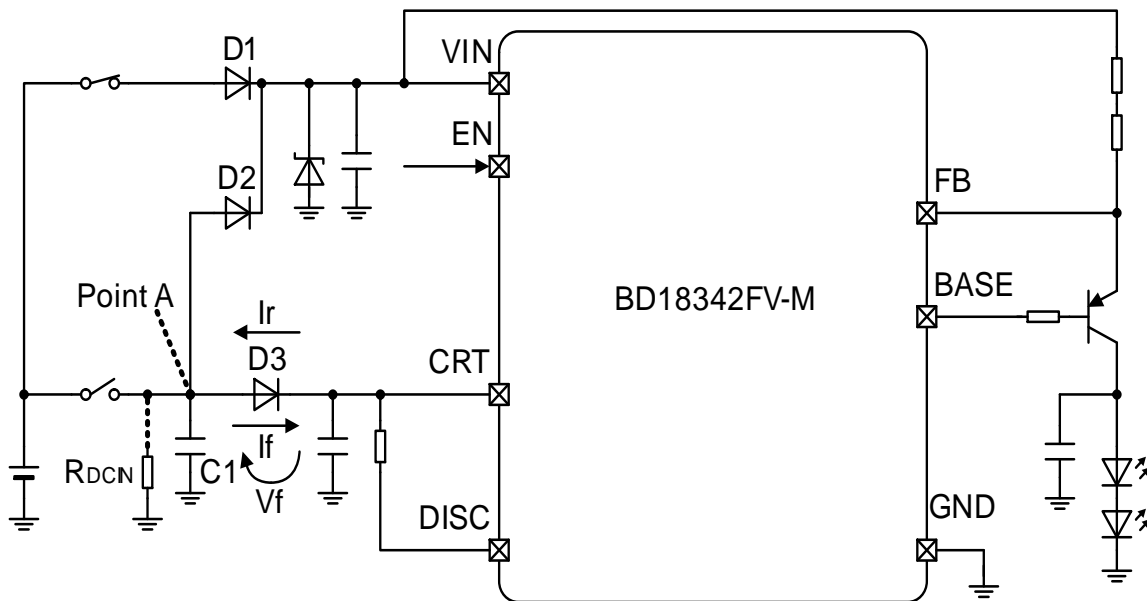

Figure 15. How Reverse Protection Diode Affects the CRT Pin Ramp Up/Down Time
- ① During the PWM dimming operation mode, Point A on Figure 15 is Hi-Z.
- ② Reverse current  $I_r$  of D2 and D3 goes to Point A.